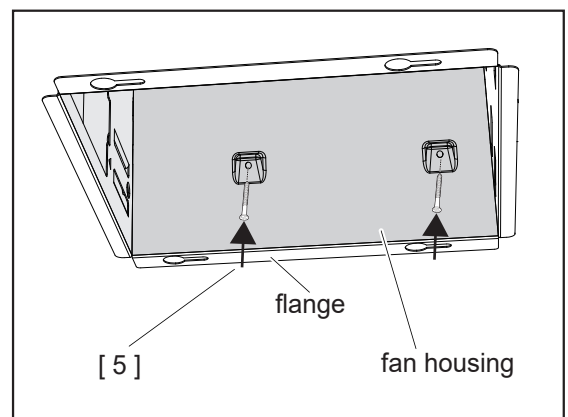

Fig 28
11. Place fan housing in opening so that its bottom edge is flush with finished ceiling. Attach to joist through holes with two Long Screws [5] as figure shows. (Fig 28)